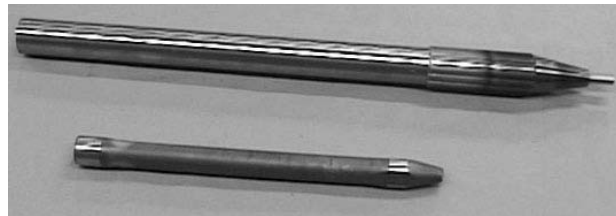

Figure 11-13. Striker and Body/Anvil.
5. Once the striker (2) is accessible, lower the body/anvil (1) to the level surface. Pull the striker from the body/anvil by hand as shown in Figure 11-13.